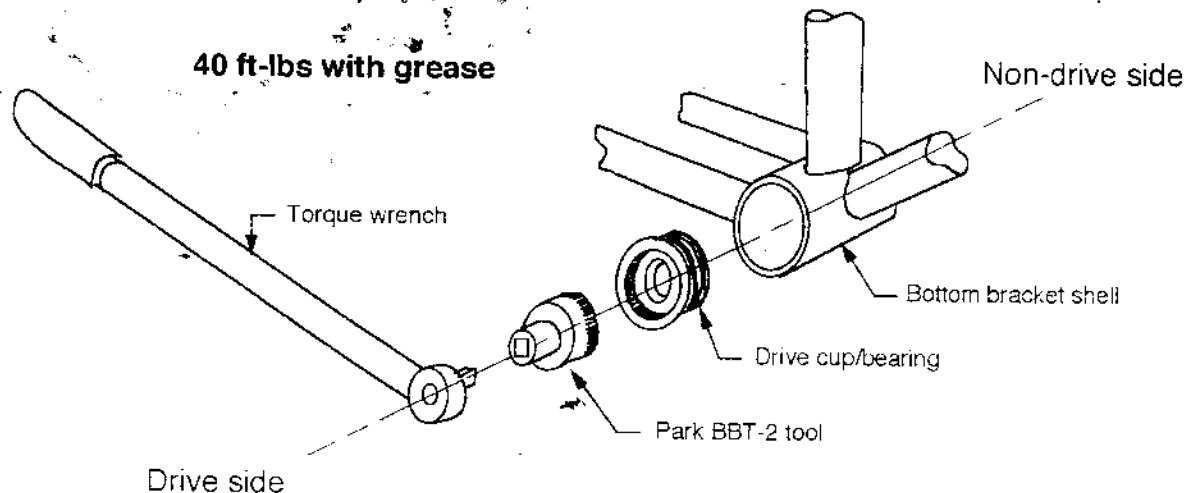

Fig. 2 Installation of Drive cup/bearing
4. Drive cup/bearing - Hand install the drive cup/bearing in the drive side of the bottom bracket shell. Guide the sleeve into the drive cup so it seats against the bearing. The aluminum sleeve **must** seat against the non-drive cup and the drive side bearing. Using the Park BBT-2 tool and torque wrench, engage the drive cup/bearing and tighten to 40 ft-lbs. (See Figure 2). Make sure that the sleeve fits snugly between the non-drive cup and drive side bearing. If the sleeve can be moved with a finger the bottom bracket shell is too wide. Remove the cup/bearing assemblies and sleeve, then face the BB shell to reduce its width. Refer to Steps 1-4 for reinstallation of the bottom bracket cup/bearings and sleeve after facing. **Note: It is normal to have a small gap between the BB shell and the flange of the drive cup.**